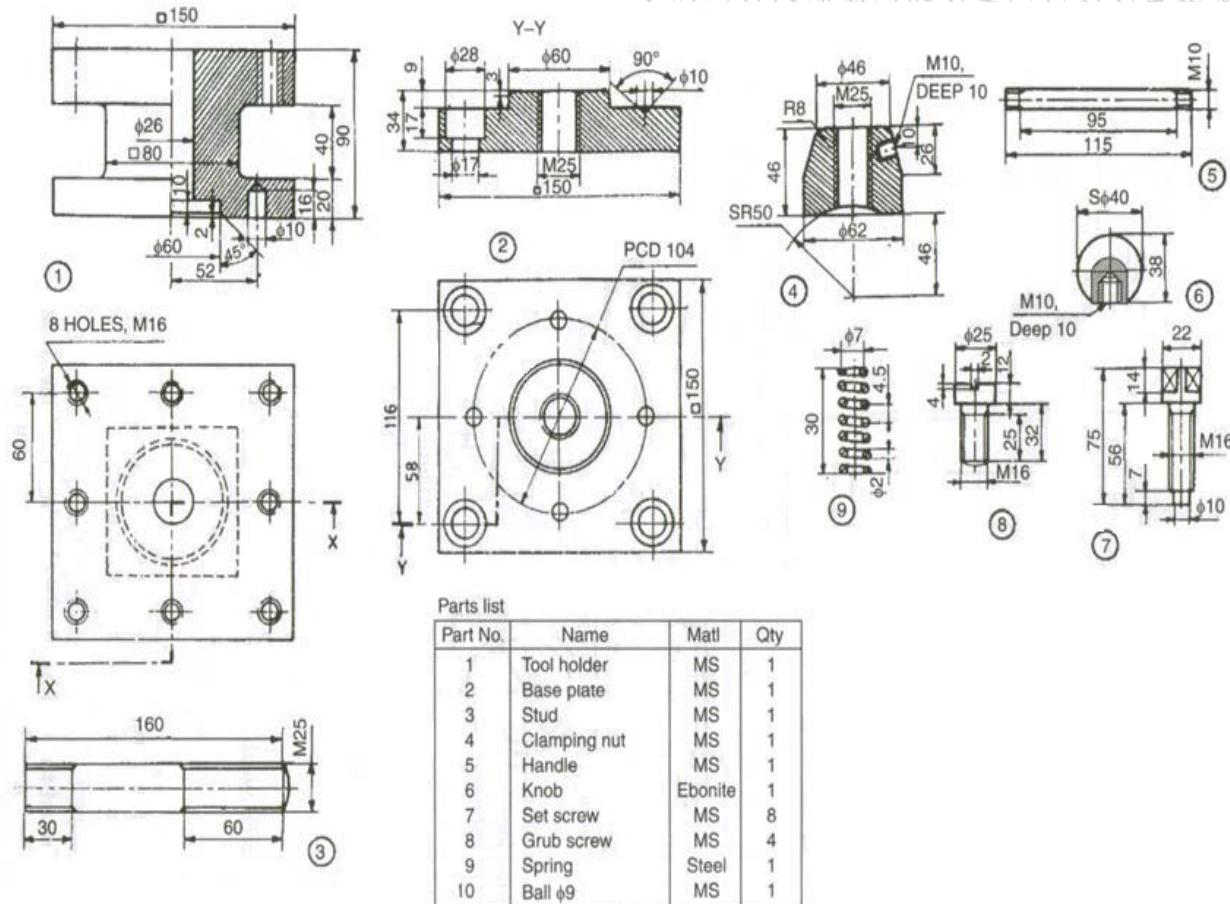

Fig. No. 1 – Details of Square Tool Post
- a) A right circular cylinder with base diameter 60 mm axis length 60 mm stands vertically on its base in the H.P. A square prism with side of base 25 mm, axis length 80 mm penetrates horizontally such that its axis is parallel to V.P. and 10 mm away (in front) from the axis of vertical cylinder and is 30 mm above the base of the cylinder. The faces of square prism are equally inclined with H.P. draw the projections of solids with curve of intersection. (6)
- b) A vertical cone of base diameter 100 mm and axis length 90 mm is penetrated by a horizontal cylinder of base diameter 50 mm axis length 120 mm. The axis of the cylinder is parallel to V.P. and is 30 mm above the base of cone. The axis of cylinder is 12 mm away from the axis of the cone. Draw the projections of the solids showing curves of intersection. (6)
- c) A vertical square prism of side 50 mm and height 90 mm is resting on the ground on its base with one side of base inclined at 30° to the V.P and is completely penetrated by a horizontal square prism of 40 mm side and 100 mm axis length. the axis of the horizontal square prism is parallel to the V.P and bisects the axis of the vertical prism at right angle. All the rectangular faces of the horizontal prism are equally inclined to the V.P. draw the projections of the solids showing the lines of intersection. (6)
Q.4. Attempt any two of the following. (12)
a) Represent transition fit and interference fit. (6)
b) Show surface roughness value and roughness grade symbol for roughness grade number N3. (6)
c) Highlight the advantages of Computer Aided Design and Drafting (CADD). (6)
Q.5. Attempt any one of the following. (24)
a) Fig. No.1 shows details of square tool post. Draw sectional front view and top view of the assembly and also prepare bill of material. (24)